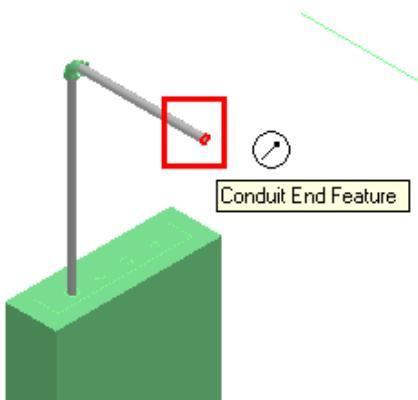

Figure 14: Selected End Feature
15. Select the **End Feature** of the conduit, as shown in Figure 14.